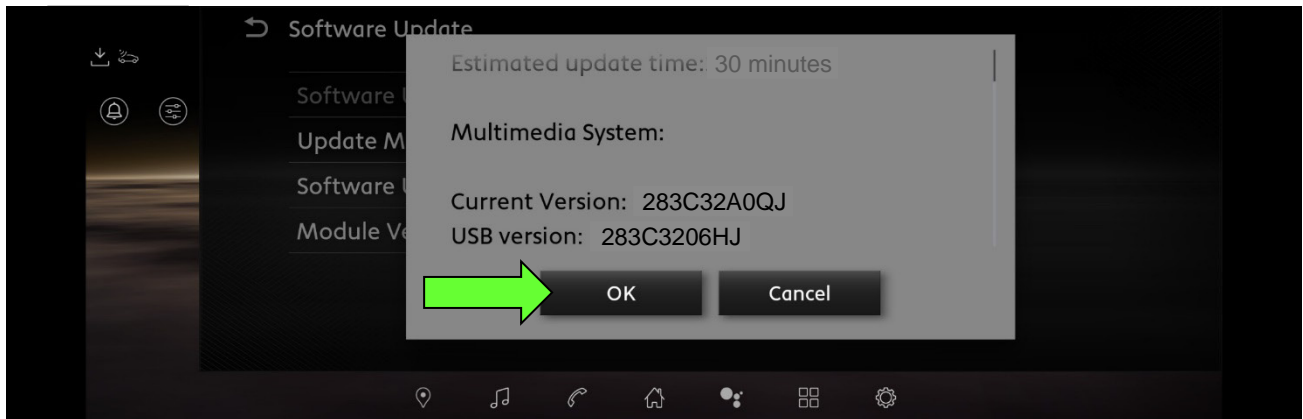

Figure 11
15. When the message in Figure 11 appears, scroll the message screen to the bottom and select **OK**.